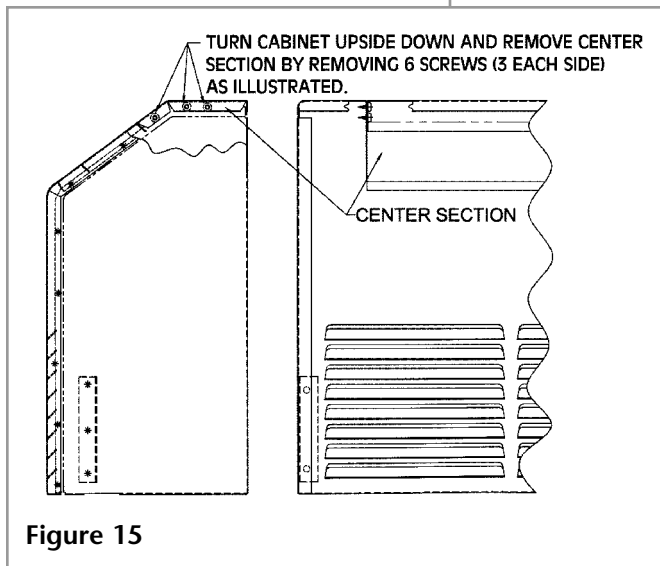
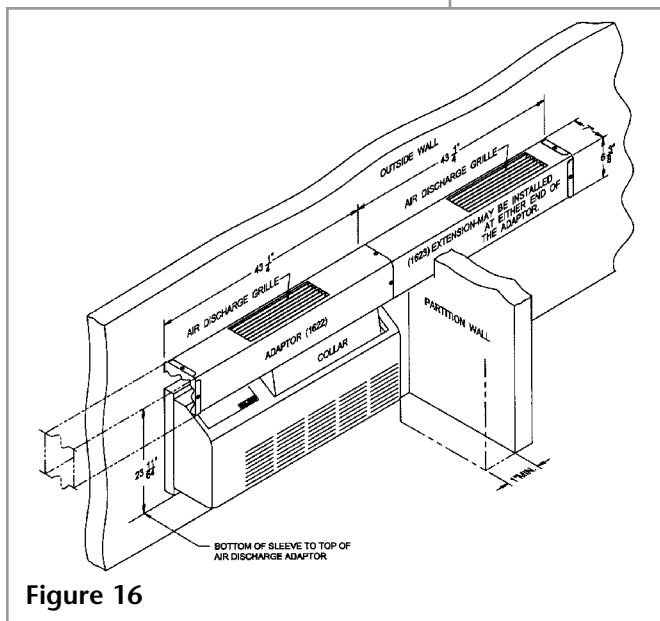

Figure 15
Figure 16
2. Slide collar into position under the adaptor and secure with the two (2) screws provided. (See **Figure 16**.)
3. If the required air flow direction is to the left, remove the end cap and three (3) tinnermans from the left end of the adaptor. Reinstall end cap and tinnermans to the right end of the adaptor.
4. Remove the center section from the cabinet front assembly. (See **Figure 15**.) **If the center section is not removed, you will be unable to open the cabinet front once the collar and adaptor are installed. Discard center section.**
5. Remove the discharge air grille from the unit. **Retain the two (2) screws.**
8. Remove adaptor and collar assembly from unit. At the two (2) locations marked on the adaptor in Step #7, drill a 7/64"-diameter hole (2 places).
9. Install adaptor and collar assembly on unit as illustrated and secure with the two (2) screws retained in **Step #5**. Also, secure the adaptor to the adaptor brackets with the screws provided.
3. Slide collar into position under the adaptor and secure with the two screws provided. (See **Figure 16**.)
5. Remove the center section from the cabinet front assembly. (See **Figure 15**.) **If the center section is not removed, you will be unable to open the cabinet front once the collar and adaptor are installed. Discard center section.**
6. Remove the discharge grille from the unit. **Retain the two (2) screws.**
10. Install adaptor and collar assembly on unit as illustrated and secure with the two (2) screws retained in **Step #6**. Also, secure the adaptor to the adaptor brackets with the screws provided.